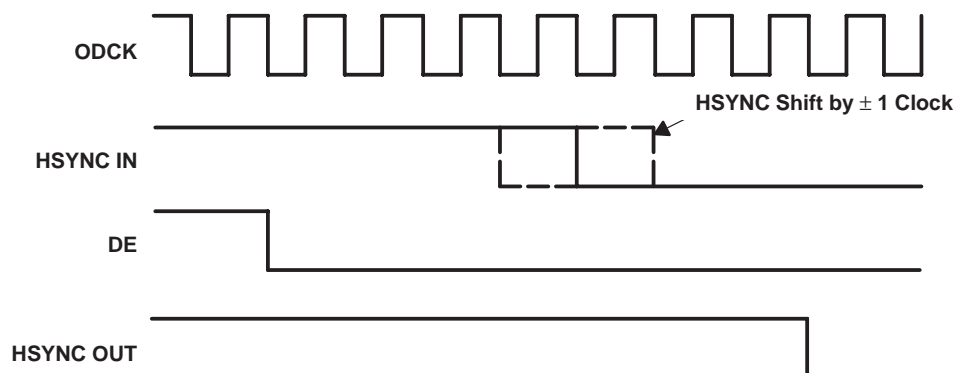

Figure 16. HSYNC Regeneration Timing Diagram
The TFP201A integrates HSYNC regeneration circuitry that provides a seamless interface to these noncompliant transmitters. The position of the data enable (DE) signal is always fixed in relation to data, irrespective of the location of HSYNC. The TFP201A receiver uses the DE and clock signals to recreate stable vertical and horizontal sync signals. The circuit filters the HSYNC output of the receiver, and HSYNC is shifted to the nearest eighth bit boundary, producing a stable output with respect to data, as shown in Figure 16. This will ensure accurate data synchronization at the input of the display timing controller.